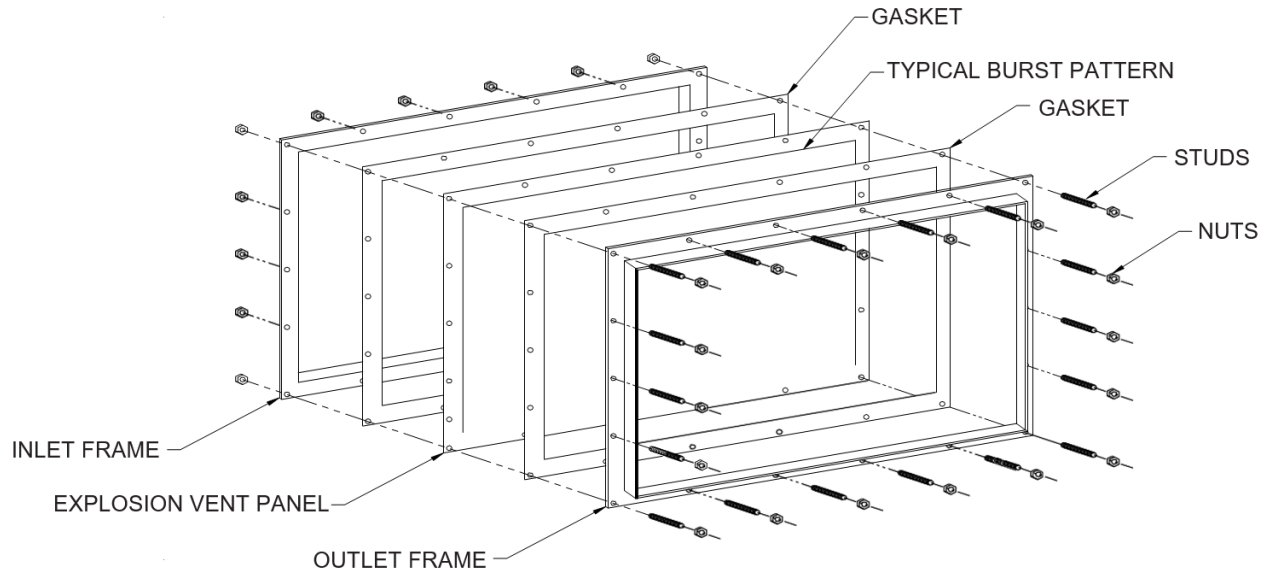

FIGURE 1|
- e) Carefully install the new explosion vent between the inlet and outlet mounting frames using new gaskets as shown in figure 1. ZOOK recommends compressed fiber gasket no greater than 1/16" (1.6mm) thick. The user is cautioned to select a gasket material that is suitable for the intended service and will resist "cold flow". In the event of cold flowing of the gaskets, the installation torque will relax, which can result in erratic bursting of the Explosion vent and/or leakage.